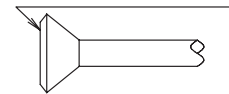

Fig. 14
- When connecting the flare nut, coat the flare section (only inside) with ester oil or ether oil, rotate three or four times first, then screw in. **(Refer to Fig. 14)**